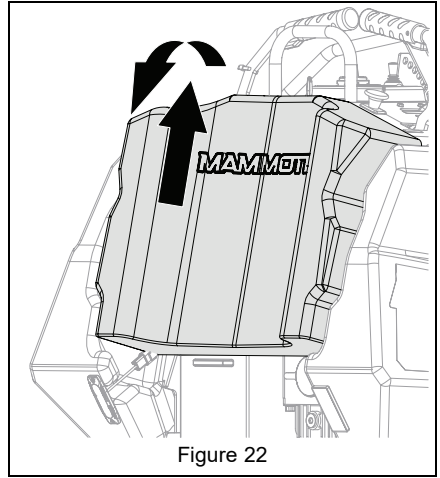

Figure 22
1. Lift access pad up and then rearward to remove. See Figure 22.